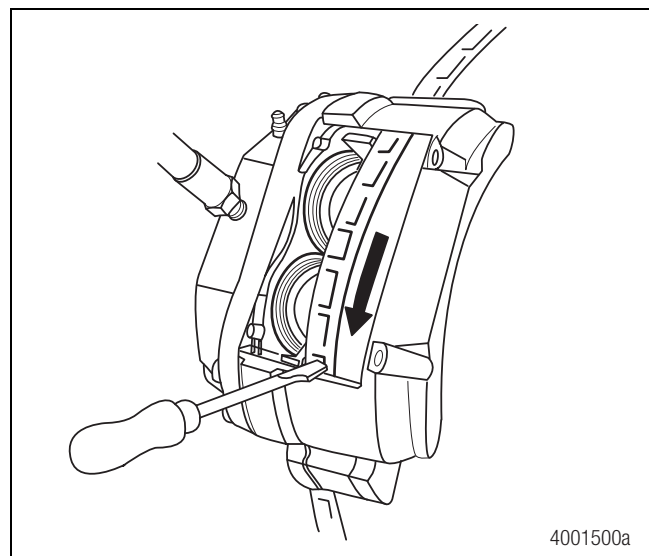

Figure 5.5
- Remove all scale and rust from around the edge of the rotor. Do not damage the dust boots. Place a scraper against the caliper body and rotate the rotor to remove most of the corrosion. Use an emery cloth to finish cleaning the rotor. Figure 5.5.